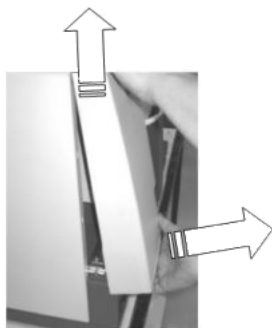

Figure 4. Removing the left panel on the instrument
- 2 Remove the instrument left panel, and remove the cut-out fill plate, if applicable. To do this, lift the bottom of the panel upward and then pull it forward (see Figure 4).
- 2 Remove the left panel on the instrument. To do this, lift the bottom of the panel upward and then pull it forward (see Figure 4).